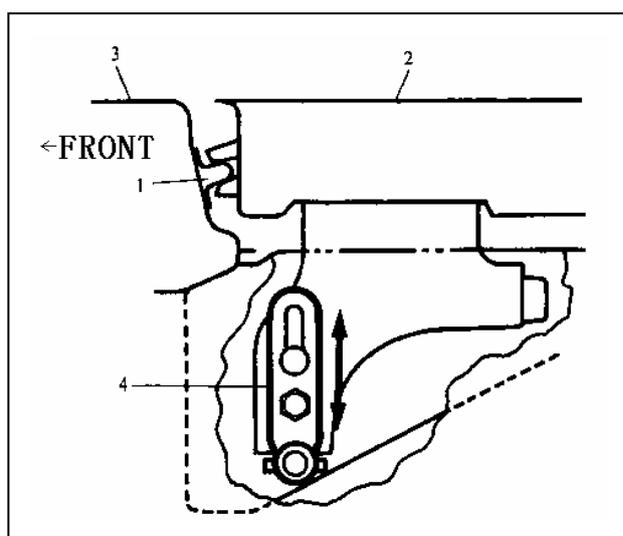

Fig. 19-23
- ① Remove slide door stoppers “1” by loosening screws.
- ② Adjust lower arm “4” so that door front door outer panel “2” and body surface “3” align each other with the door closed as shown in Fig.19-23.